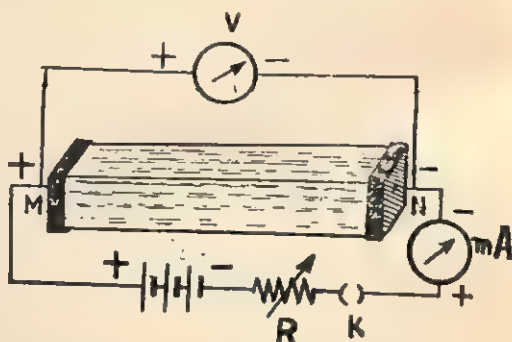

Fig. 12.16. Circuit diagram for the study of  $V$ ,  $I$  characteristic of a semi-conductor.
**Procedure.** (i) Arrange the apparatus on the table and make neat, clean and tight connections as shown in the circuit diagram of Fig. 12.16. Note the zero-error, if any, in the milli-ammeter and the voltmeter.